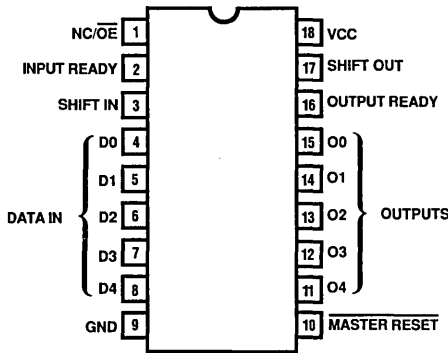

Figure 1. Typical Small-FIFO Pinout
Small FIFOs are controlled by two signals, Shift In (SI) and Shift Out (SO). There are two status signals generated by the FIFO: Input Ready (IR) and Output Ready (OR). A typical small FIFO pinout is shown in Figure 1.